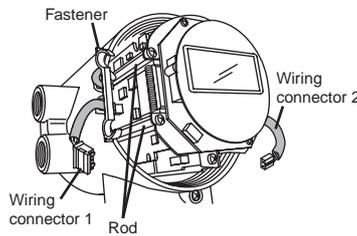

Figure 4.9.3 Detach a Lead Wire Fastener
- (4) Detach a lead wire fastener from the rods to be able to see mounting screws.(Figure 4.9.3)